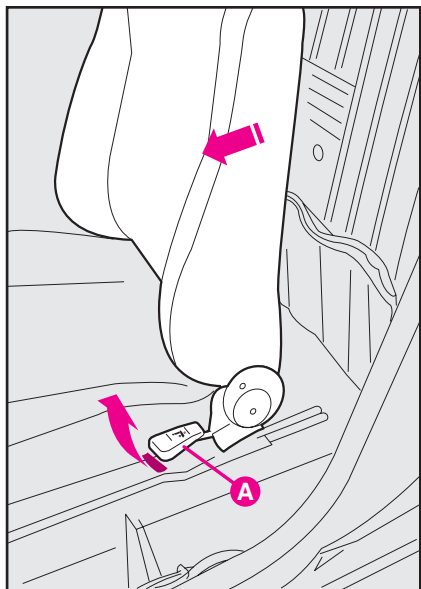
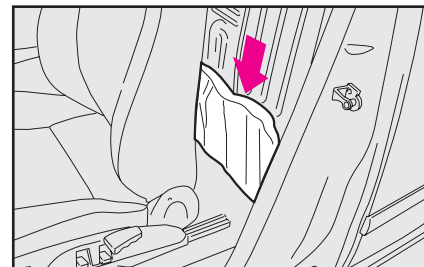
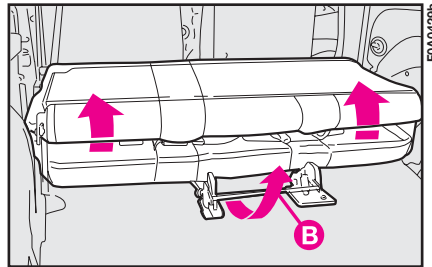
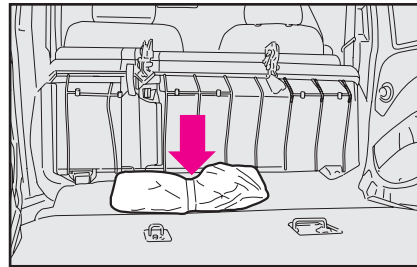

fig. 2
fig. 3
fig. 4
fig. 5
4) Either move the left-hand front seat back forwards (Fiat Doblò Cargo versions) lifting lever **A**-fig. 2 and take the tool bag shown in fig. 3 or lift the rear seat (for Fiat Doblò Passenger Transport versions) with lever **B**-fig. 4 and take the bag shown in fig. 5. Take the bag to the wheel to be replaced.